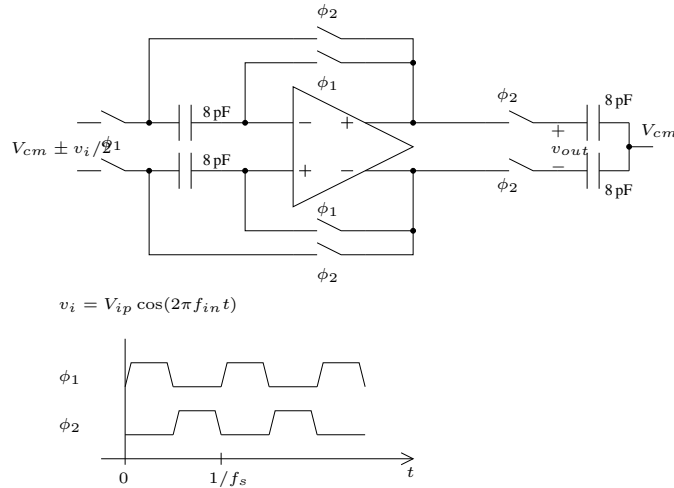

Figure 6: Sample and hold circuit
4. Use the opamps in P2 and P3 (fully differential opamps designed earlier) in the sample hold circuit in Fig. 6. Use ideal switches with 1 kΩ on resistance. Use  $f_s = 4$  MHz and